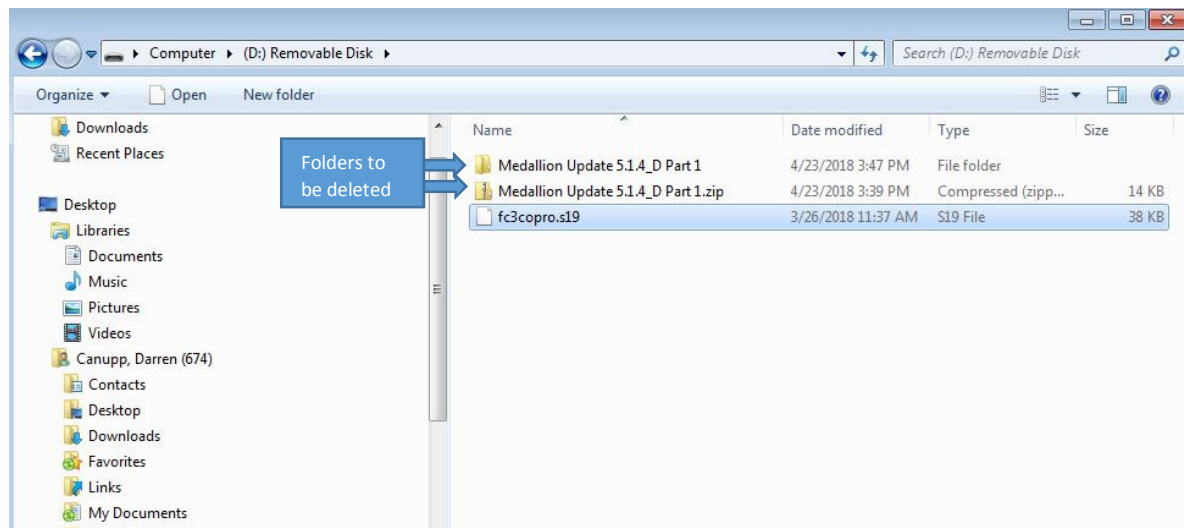
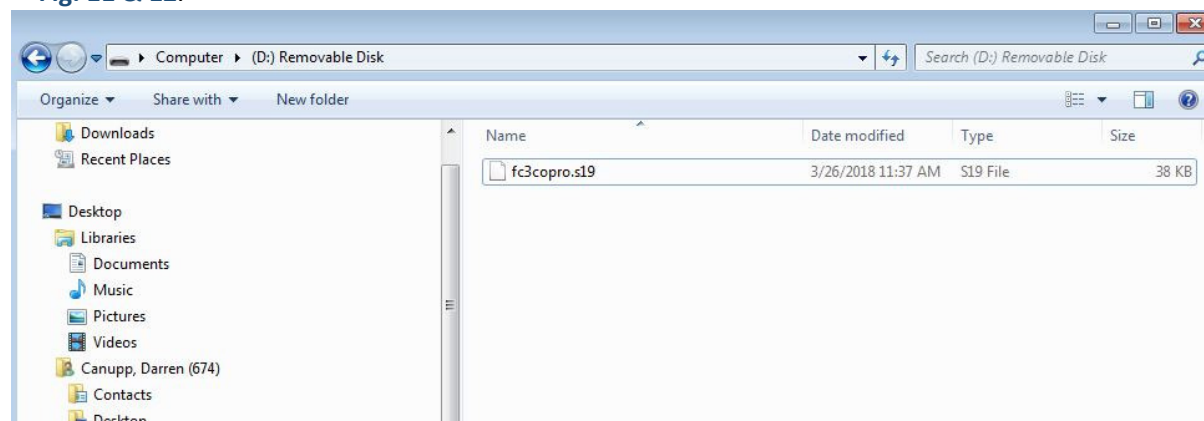

Fig. 10, Pasting the files
Fig. 11, This should be the only file on the drive for part 1
10. On the root drive, (D: in this example) right click in an open area of the displayed window and select "Paste." See **Fig. 10**.
11. Delete the two Medallion folders shown in **Fig. 10**. Only the file(s) should be left on the drive. See **Fig. 11 & 12**.